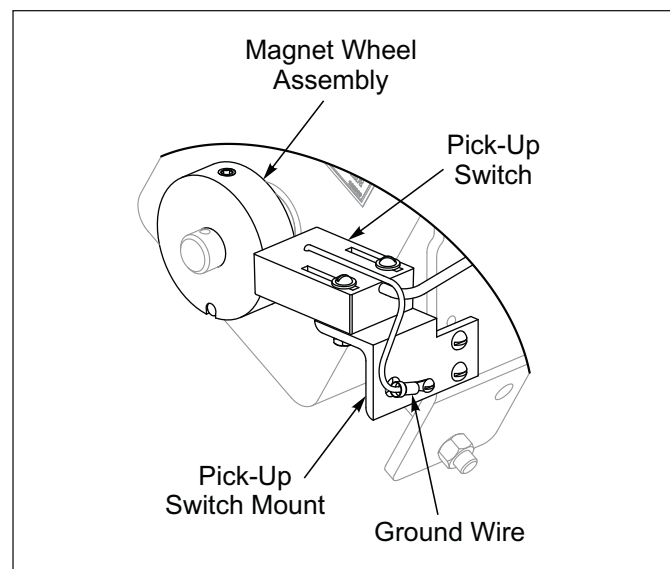

Figure 2-33: Pick-Up Switch Ground Wire
7. Attach the short pickup switch ground wire to the small hole in the Switch Bracket with a #6-32 x 1/2" machine screw, removing paint under the wire connector to assure a good electrical ground connection. **See Figures 2-33.**